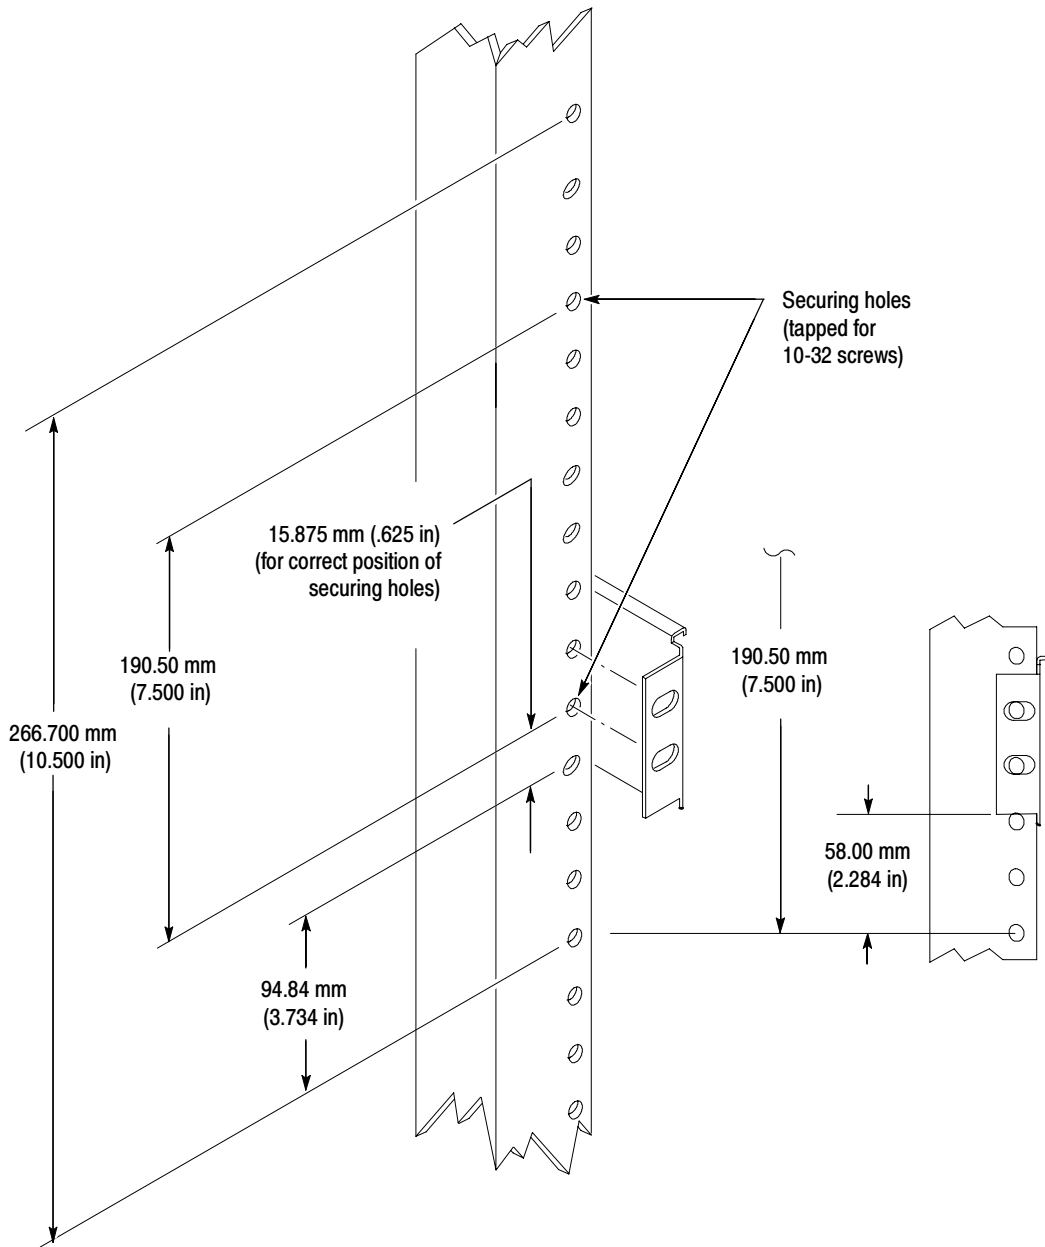

Figure 9: Vertical clearances for rack installation (left-front rail shown)
- a. Select the mounting position in rack: Select two ½ inch spaced holes in the front rail. Verify that the 10.500 inch clearances exist relative to those mounting holes. See Figure 9 on page 17.